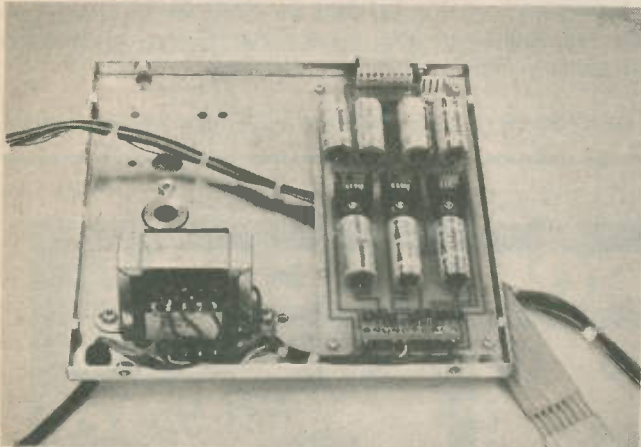

Fig. 7.1. Base plate assembly
**C**ONSTRUCTION of the MENTOR robot starts at the base plate of the robot (Fig. 7.1) to which the power supply board and transformer are fitted. The main wiring loom passes through a slot under the board ready for connecting to the interface board which is later sited beneath the robot.